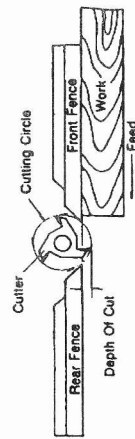

Fig. 8
1. For most work, where a portion of the edge of the work is not touched by the cutter, both the front and rear fences are in a straight line, as shown in figure 8.